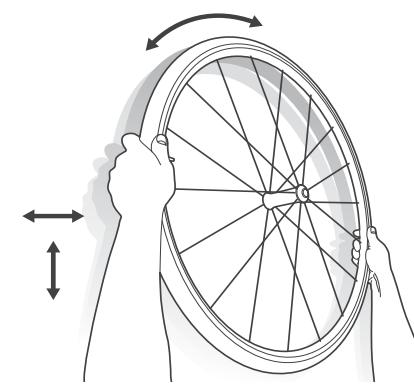

Figure 26. Spin/shake the wheel
6. While holding the wheel, rock the wheel back and forth and spin to spread the sealant around the inside of the tire (Figure 26).